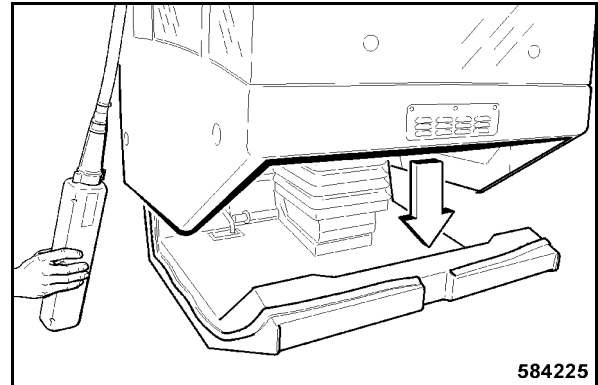

Fig. 205
- Slowly lower the cabin vertically to the operator's stand (Fig. 205).